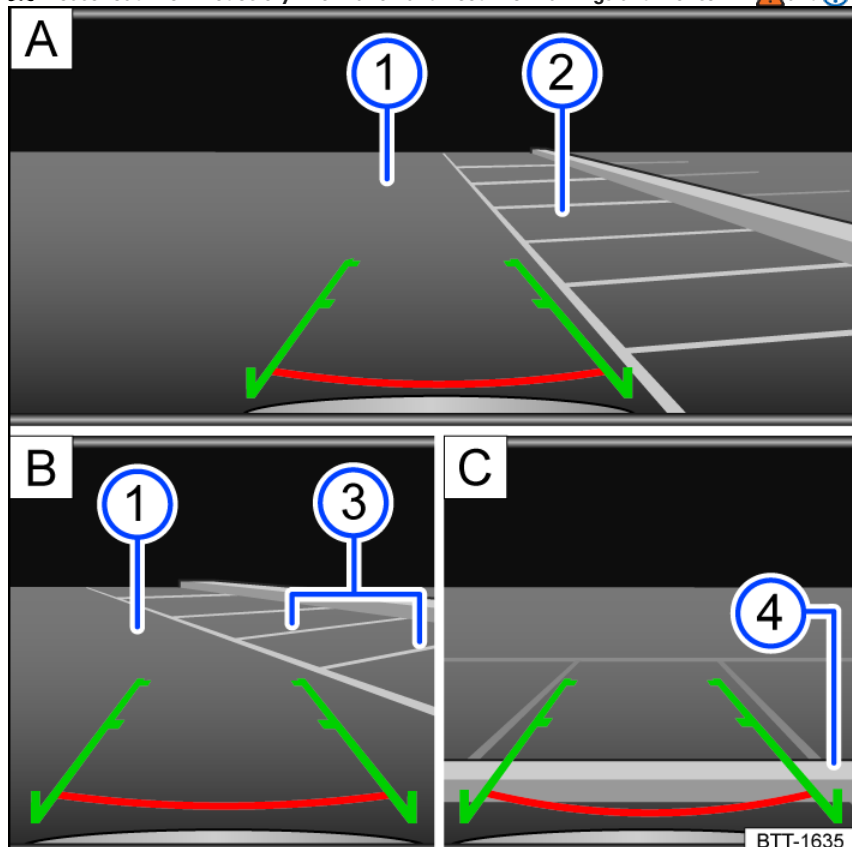

Fig. 139 Infotainment system: Parking with the Rear View Camera system.
- ① Road surface.
- ② Selected parking space.
- ③ Side boundaries of the selected parking space.
- ④ Rear boundary of the parking space.
1. Position your vehicle in front of the parking space *fig. 139* **A** ②.
3. Slowly reverse while steering so that the green side lines line up with the selected parking space. The green lines must line up with the side boundaries of your parking space *fig. 139* **B** ③.
4. Stop when the red horizontal line reaches the rear boundary *fig. 139* **C** ④.